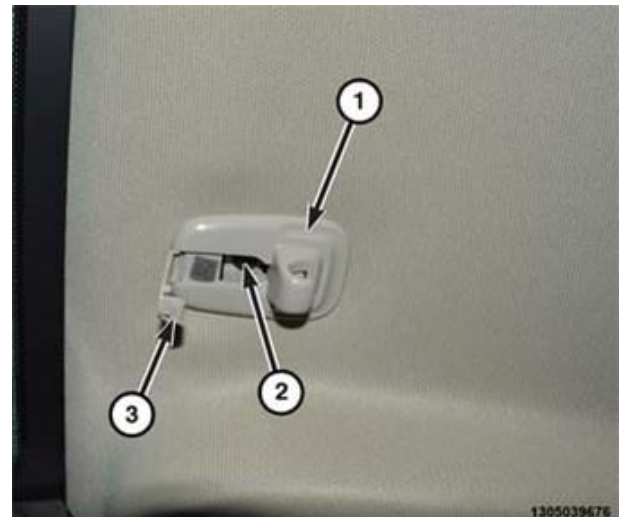

Figure 18 – Sun Visor Support
42. Using a small pry tool, open the sun visor support screw cover (Figure 18).
43. Remove the screw and the sun visor support (Figure 18).
78. Position the sun visor support and install the screw, tighten securely then close the screw cover (Figure 18).